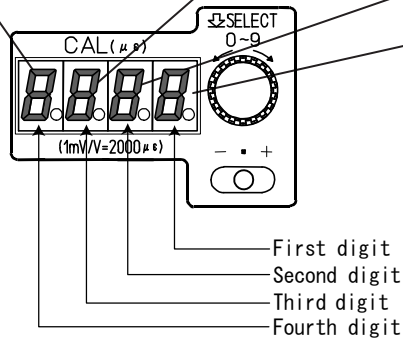

Fig.2-3 Calibration value (CAL)
The indicated value is calculated value based on input. The value can be set from $1\mu\epsilon$ to $9999\mu\epsilon$ by a step of $1\mu\epsilon$ ($=10^{-6}$). Values should be set for each digit (Figure 2-3). Pressing calibration value setting knob (12) (Figure 2-4) turns on the fourth digit of calibration value LED (13). Turning the switch changes the value on (13). Even the indication is blinking, the setting is being made. Press the knob when your target value is indicated. In this case, blinking of (13) turns to lightning (value fixed), and then the third digit starts blinking. Repeat this step up to the first digit. After the first digit turns on and then all digits turns on, calibration value setting completes. To change the calibration value, repeat the steps above. The value is based on the equivalent value for gauge factor 2.00 and one gauge configuration. For strain gauge-type transducer, set and calculate the value based on $1\text{mV/V}=2000\mu\epsilon$.